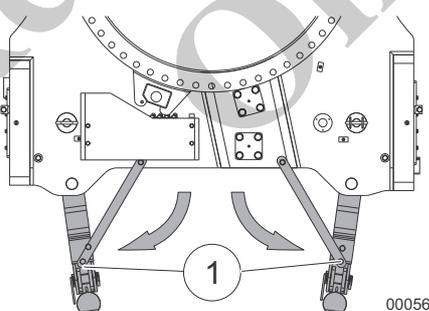

Fig. 144 Folding the outrigger cylinders
| 4 | Fold out the outrigger cylinders (1) in Fig. 144 on the front and rear of the undercarriage to the position shown and lock them in place. |